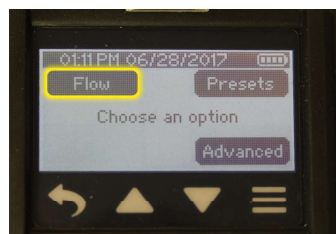

Figure 3. Single-tube Calibration Train Overview
1. Break tips off a representative sorbent tube and insert (arrow printed on tube pointing toward the pump) into the rubber sleeve of a 222 Series (non-adjustable) Low Flow Tube Holder (Figure 3).
2. Connect tubing from the 222 Series (non-adjustable) low flow tube holder to the pump inlet (Figure 3).
3. Use a length of flexible tubing to connect the exposed open end of the representative sorbent tube in the holder to a calibrator outlet (Figure 3).
Build a calibration train with sample media in line (Figure 3).